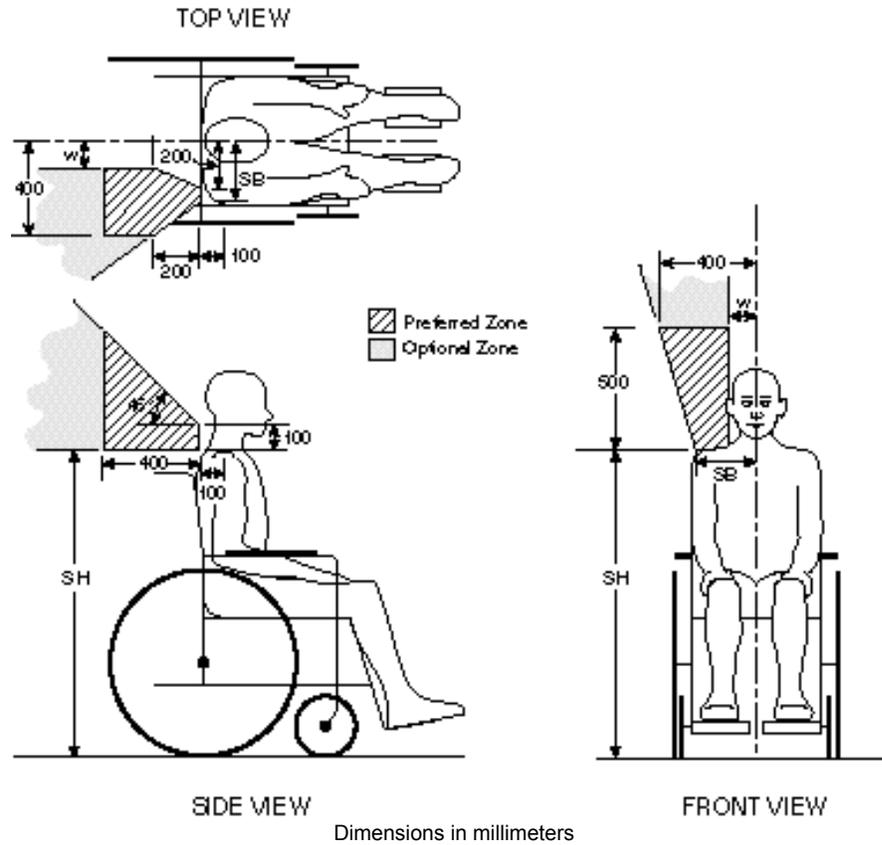

Figure 12-Preferred and optional zones for upper vehicle anchor point of shoulder restraint.
- Figure 12 and table 6 below provides guidance for the installation of shoulder belt anchorage points. Note the variation in dimensions depending upon occupant population.